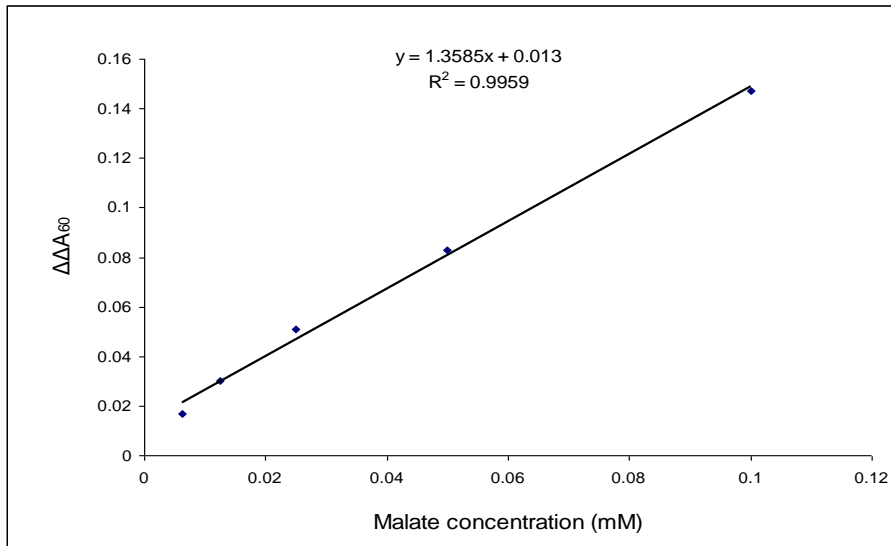

Figure1. A typical malate standard curve measured by ScienCell™ Malate Assay kit
Data from Malate Assay kit measuring malate solutions with concentrations ranging from 0.00625 to 0.1 mM show a linear relationship between OD_{440nm} and malate concentration (Figure 1).
3. Based on the calibrated $\Delta\Delta A_{60}$ of the malate standard, make a standard curve by plotting $\Delta\Delta A_{60}$ as a function of malate concentration (see Figure 1 for a typical standard curve). Determine the equation and R^2 value of the resulting trend line.